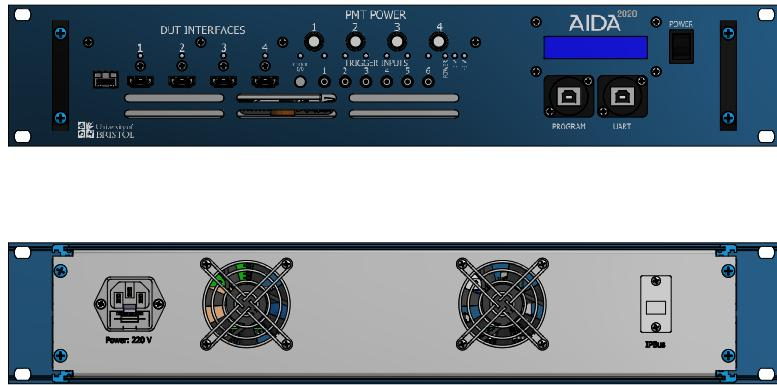

Figure 1.2: View of the 19"-rack mount TLU front (top) and back (bottom) panels.
The front and back panels for the 19"-rack unit are shown in figure 1.2. All the components are identical to those of the table-top enclosure with the following exceptions:
3. Plug an Ethernet cable in the RJ45 socket located on the back panel and connect it to the computer used to run the control software. The socket is labeled **IPBus** on figure 1.1 and figure 1.2.
Updating the firmware on the TLU requires writing a bit stream file to its FPGA. This operation is performed using the left USB port located on the back panel, labelled FPGA PROGRAMMING in figure 1.2.